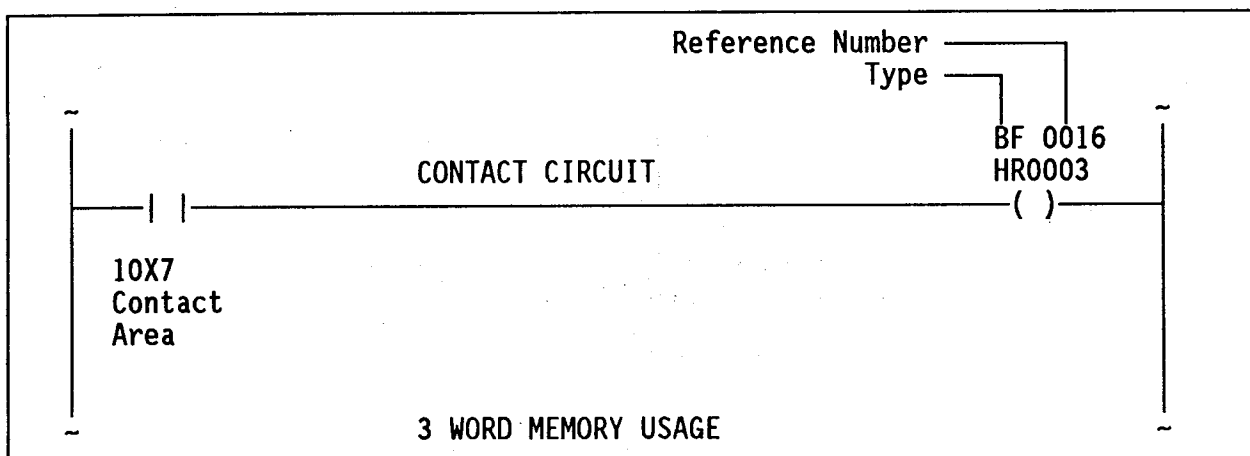

Figure 1. Bit Follow (BF)
The Bit Follow (BF) function sets or clears a bit in either a holding or output register according to the status of a contact circuit. Activating a BF coil sets the designated bit to a logic 1. Disabling a BF coil clears the designated bit to a logic 0. BF function symbology is shown in Figure 1.
Bit numbers beyond 16 (the number of bits in a single register) may be used. For example the bit cited in Figure 1 (BF0016, HR0003) could also be bit 48 of HR0001. This feature is limited to 2048 or the number of bits from the reference HR or OR to the highest available register, whichever is least.